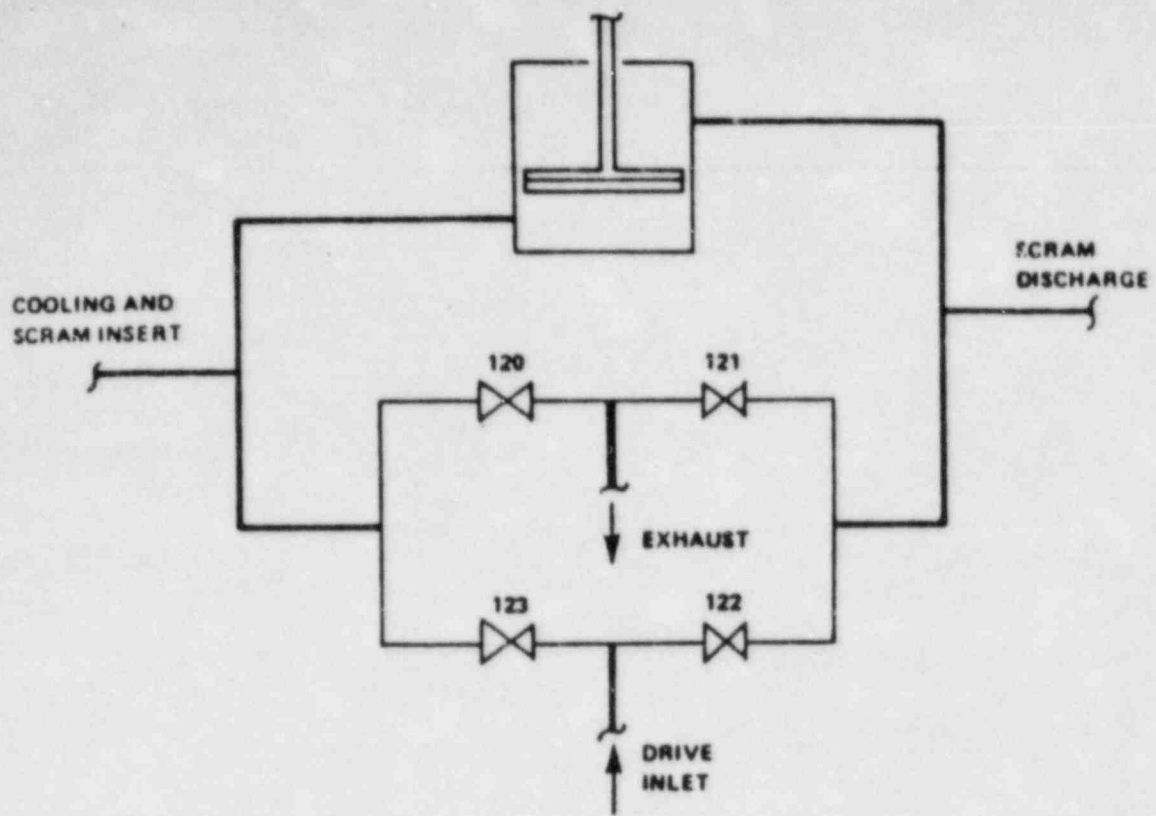

Figure 9.2.1 (1) Control Rod Sequence Timer
Regarding the Reactor Manual Control System (refer to attached Figure 9.2.1(1)) WHAT is the alignment of the four (4) directional control valves during the "settle mode?"